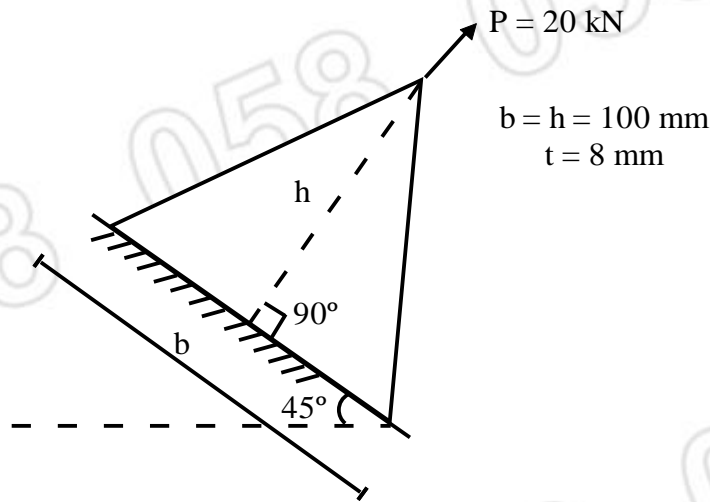

Fig. 5(a)
5. a) Two dimensional model of an anchor of a communication tower's guy cable is shown in fig. 5 (a). The anchor consists of a triangular steel plate, which is subject to force 'P'. Thickness of plate is 8 mm. Take $E = 200 \text{ GPa}$ and $\nu = 0.25$. 16